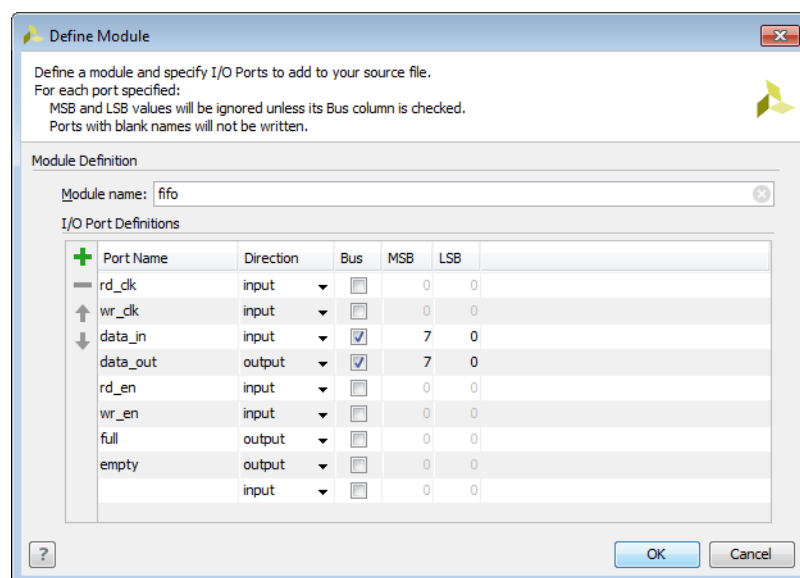

Figure 2-7: Define Module Dialog Box
8. *Optional*: If you used the **Create File** option in step 3, to create a new HDL module, the Define Modules dialog box (Figure 2-7) appears. In this dialog box, define the module or architecture in the Verilog, Verilog Header, SystemVerilog, or VHDL code using the following options, and click **OK**: